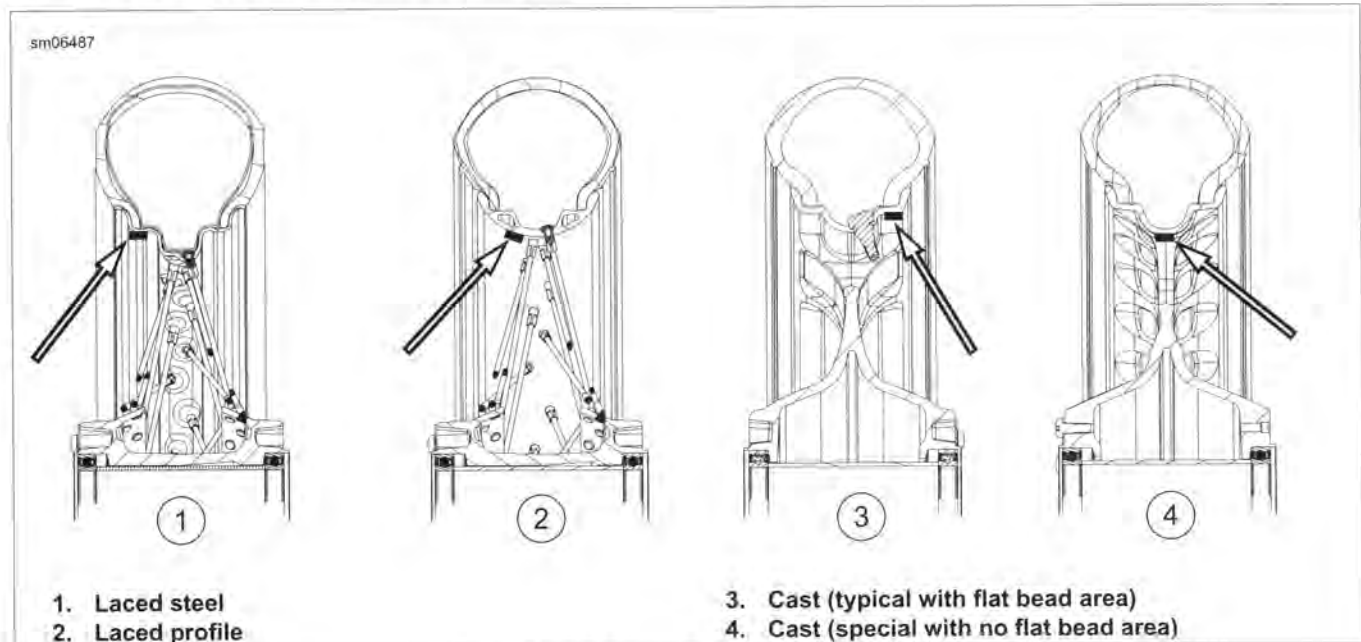

Figure 2-87. Wheel Weight Placement
1. See Figure 2-87. Place weights on a smooth surface of the wheel rim such that centrifugal force keeps them in place. Make sure that the area of application is clean, dry and free of oil and grease.